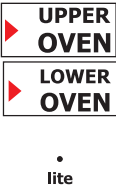

Figure 31: 2 hour lite clean
- 3. The fresh clean feature allows you to choose one of three time options. Press **lite** for a 2-hour clean (Figure 31); or